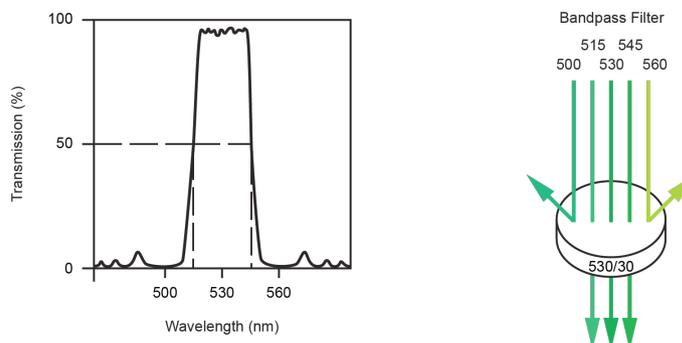

Figure A-7 530/30 Bandpass Filter
A bandpass (BP) filter transmits a relatively narrow range or band of light. Bandpass filters are typically designated by two numbers. The first number indicates the center wavelength and the second number refers to the range of the light wavelength that is passed through. For example, a 530/30 BP filter transmits light that is centered at 530nm and has a total of bandwidth of 30nm. Therefore, this filter transmits light between 515nm and 545nm (Figure A-7).